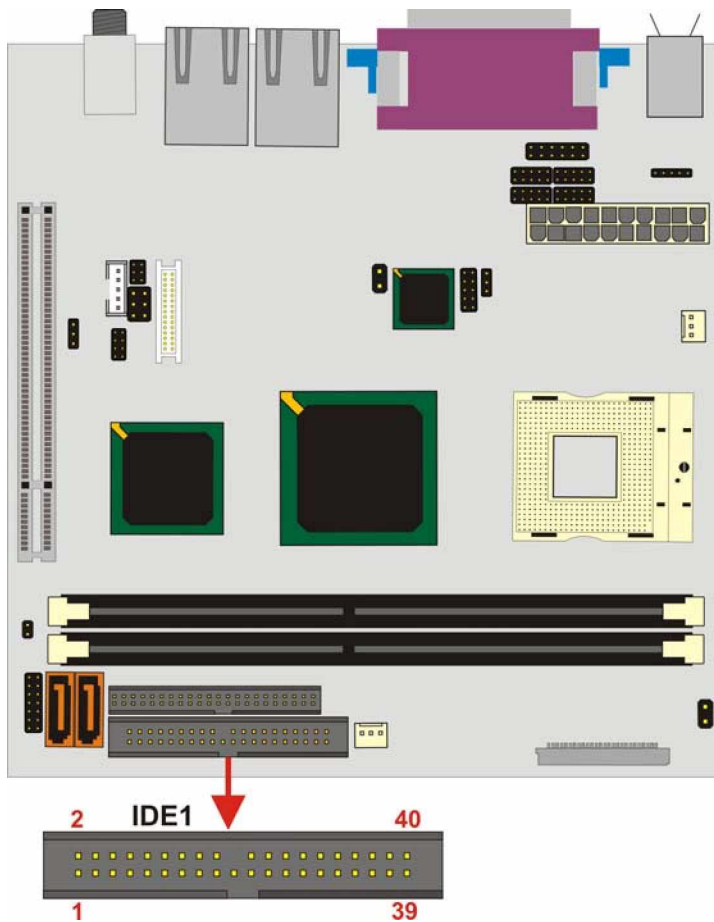

Figure 3-8: Primary IDE Device Connector Locations
- CN Location:** See Figure 3-8